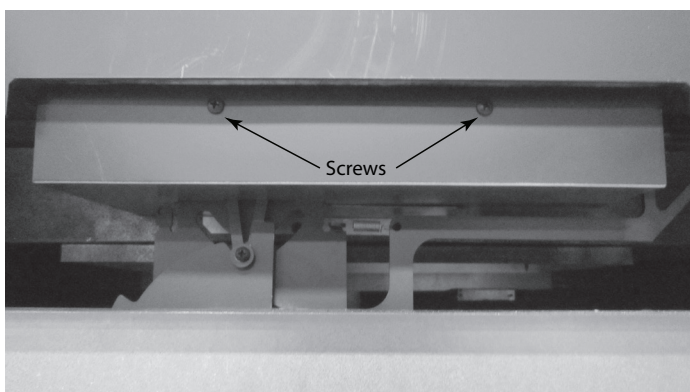

**Figure 4.37 Air Chamber Cover**
14. Reinstall the air chamber cover. See Figure 4.37.